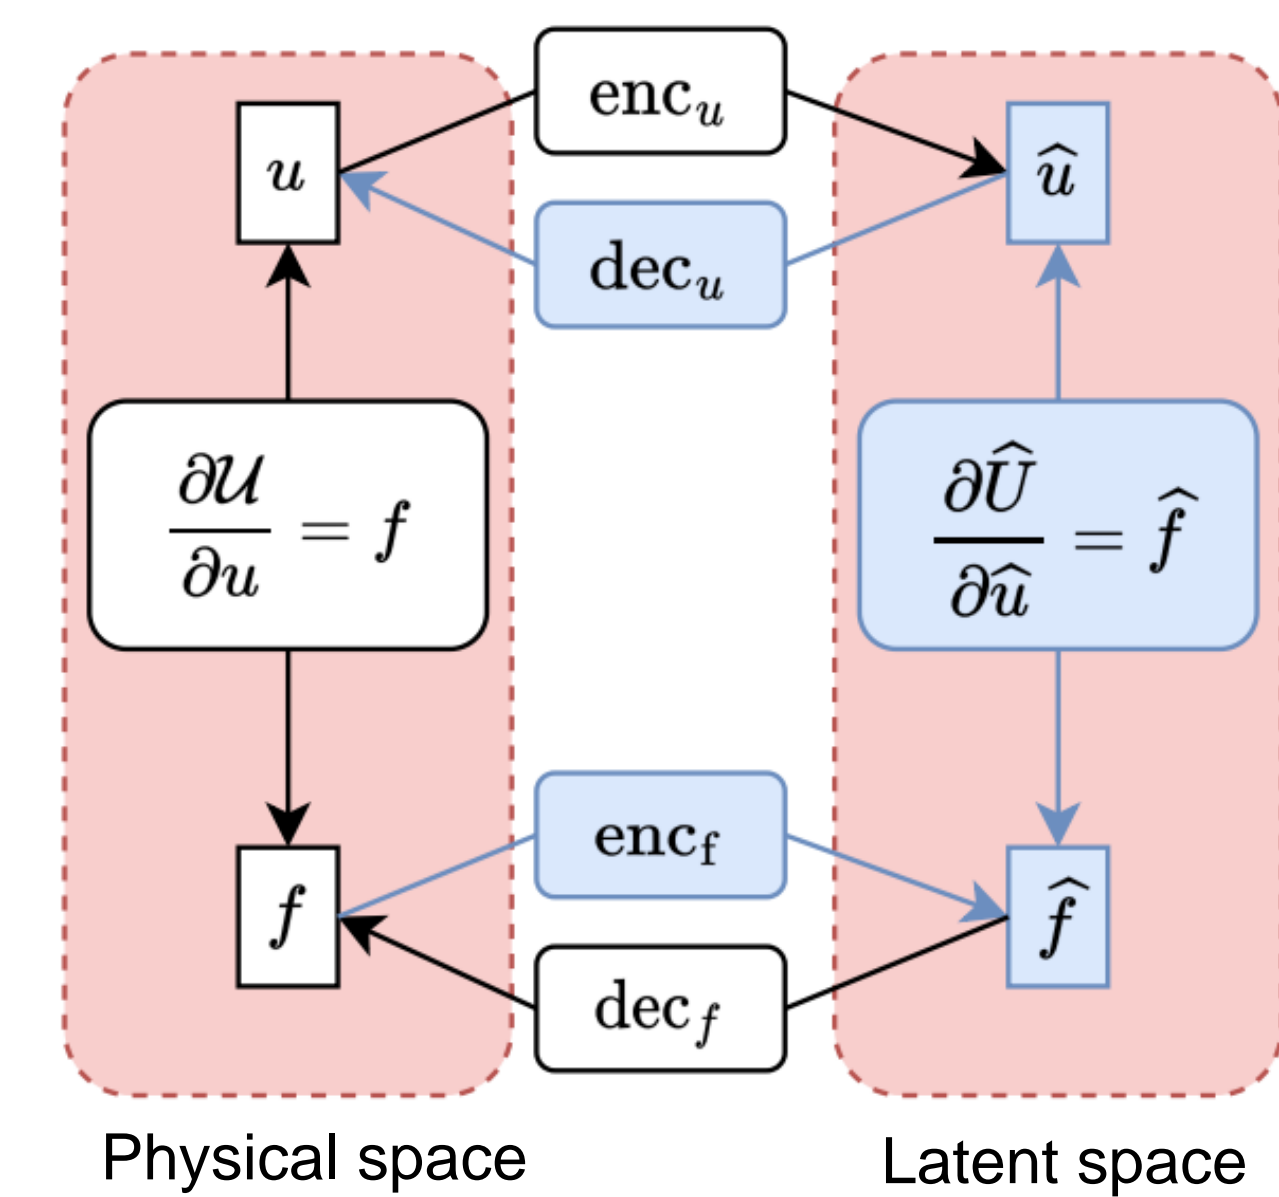

Fig 2. LEBNN Architecture
- The physics is learned in the latent space by learning to conserve a learnable latent energy $\hat{\mathcal{U}}$ \rightarrow Fig. 2